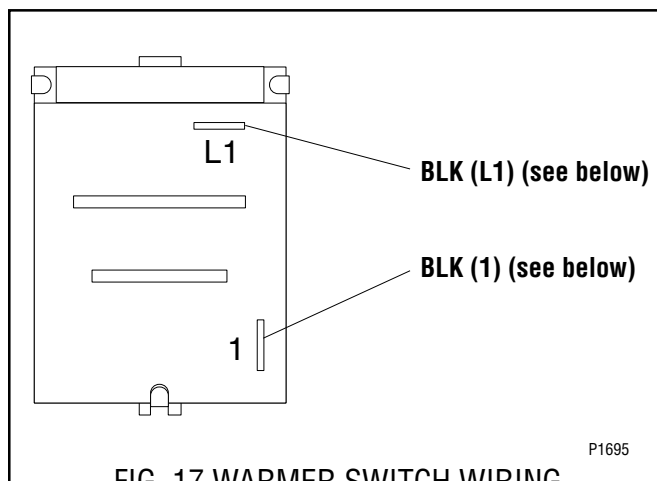

FIG. 17 WARMER SWITCH WIRING
- Refer to FIG. 17 when reconnecting the wires.